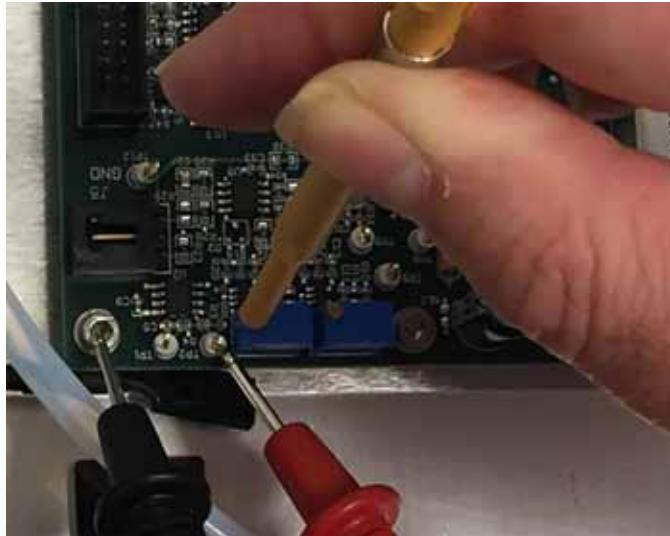

Figure 5.4-5. Pump PCB Potentiometer Adjustment
16. Refer to the data collected in step 5. Reset the UVP & OVP voltages using a potentiometer trim-tool. Adjust VR1 for UVP (measure the voltage on TP2), adjust VR2 (check TP5). See Figure 5.4-5 "Pump PCB Potentiometer Adjustment".